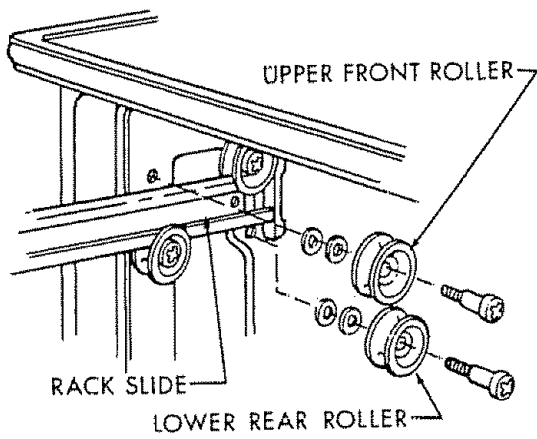

FIGURE 78
- 1 Detach upper front and lower rear roller on each side. (Figure 78)